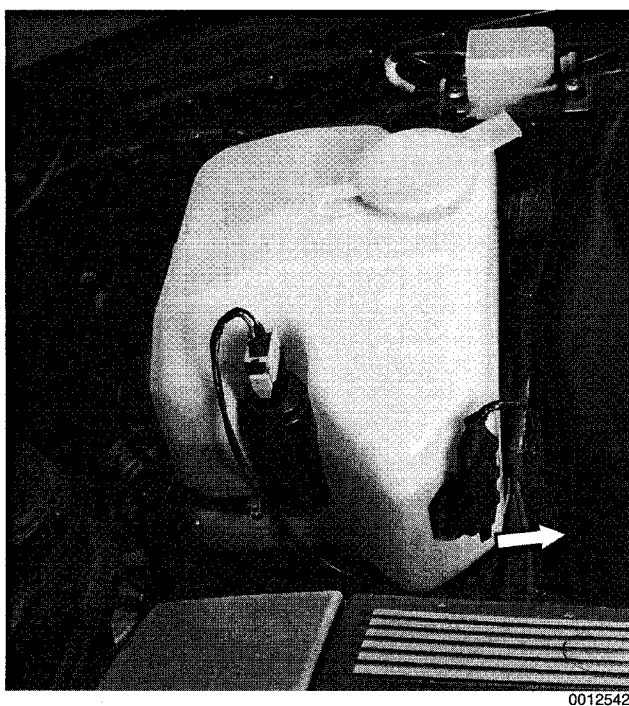

Fig. 23. Release electrical connector by pulling up on lever (arrow).
2. Lift harness connector retaining lever and unplug harness connector to washer fluid level sensor. See Fig. 23.